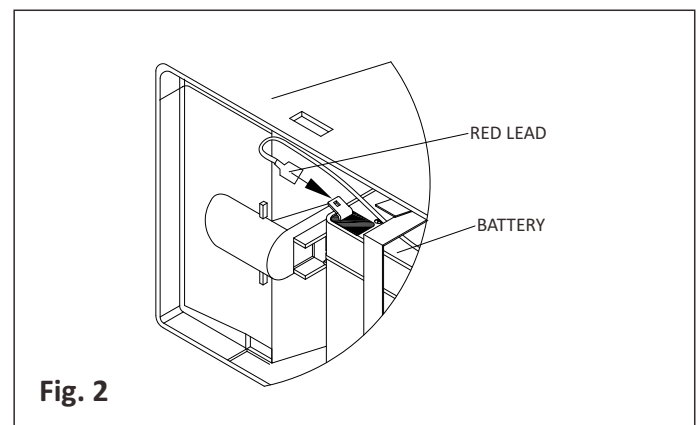

Fig. 2
5. Connect red lead to battery positive terminal. (See Fig. 2)